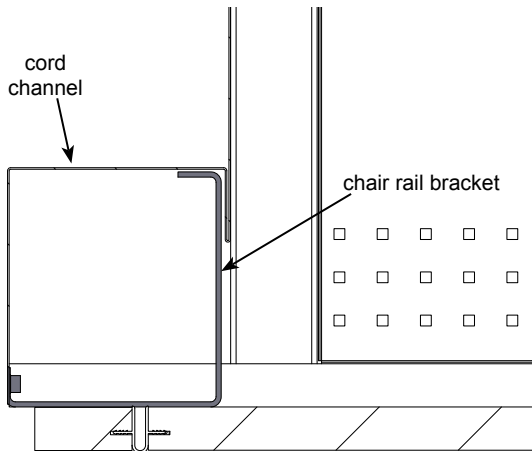

Figure 2B
*Note: If you are assembling a 60, or 72" desk, slide the cord channel over the chair rail bracket. The bracket will support the inside of the cord channel. **Figure 2B.***
2. Install the (4) glides to the bottom of the legs. The glides can be adjusted later to keep the desk level on uneven surfaces.